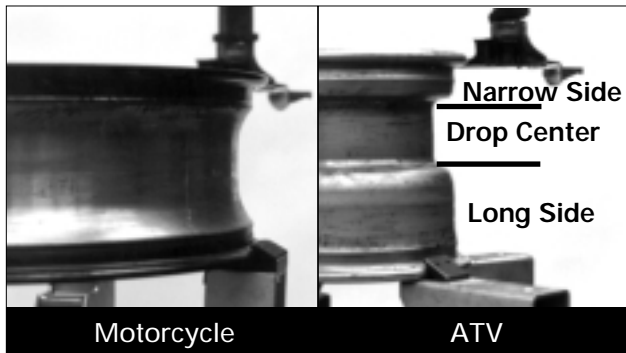

Figure 4 - Determining Mounting Side of Wheel
bolt together). See Figure 4 for more information on the drop center.
- Determine the mounting side of the wheel. The mounting side is the narrow side of the drop center. (Tire removed in Figure 4 for clarity.)
2. Pull the bead loosener shoe away from the machine and roll the tire into position against the bumper pad. Position the tire with the valve stem in the 3 o'clock position (in direct line with the bead loosener shoe). Always loosen the bead on the narrow/mounting side of the wheel first (Figures 4 and 17).